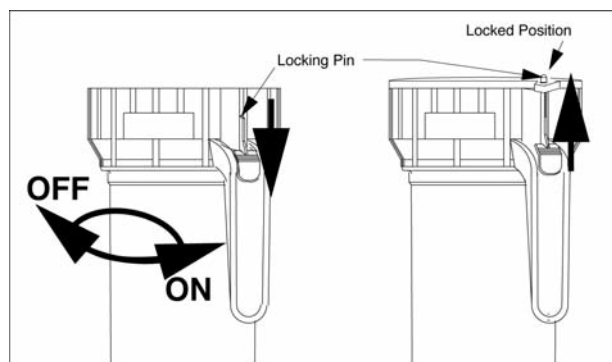

Figure 4-1. Locking Pin
5. Wet canister o-ring before installation. Install canister by depressing thumb lever and rotating 1/4 turn to the right, until the locking pin is in the appropriate position (see Figure 4-1).